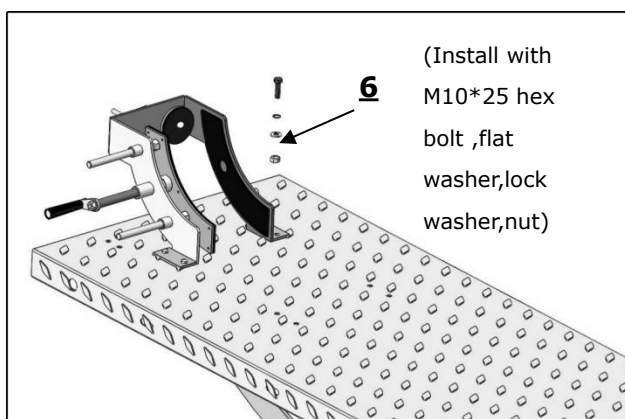

Fig.14
2.Lifting the motorcycle lift to a suitable height, install the wheel vise as to below picture. (See Fig 14)